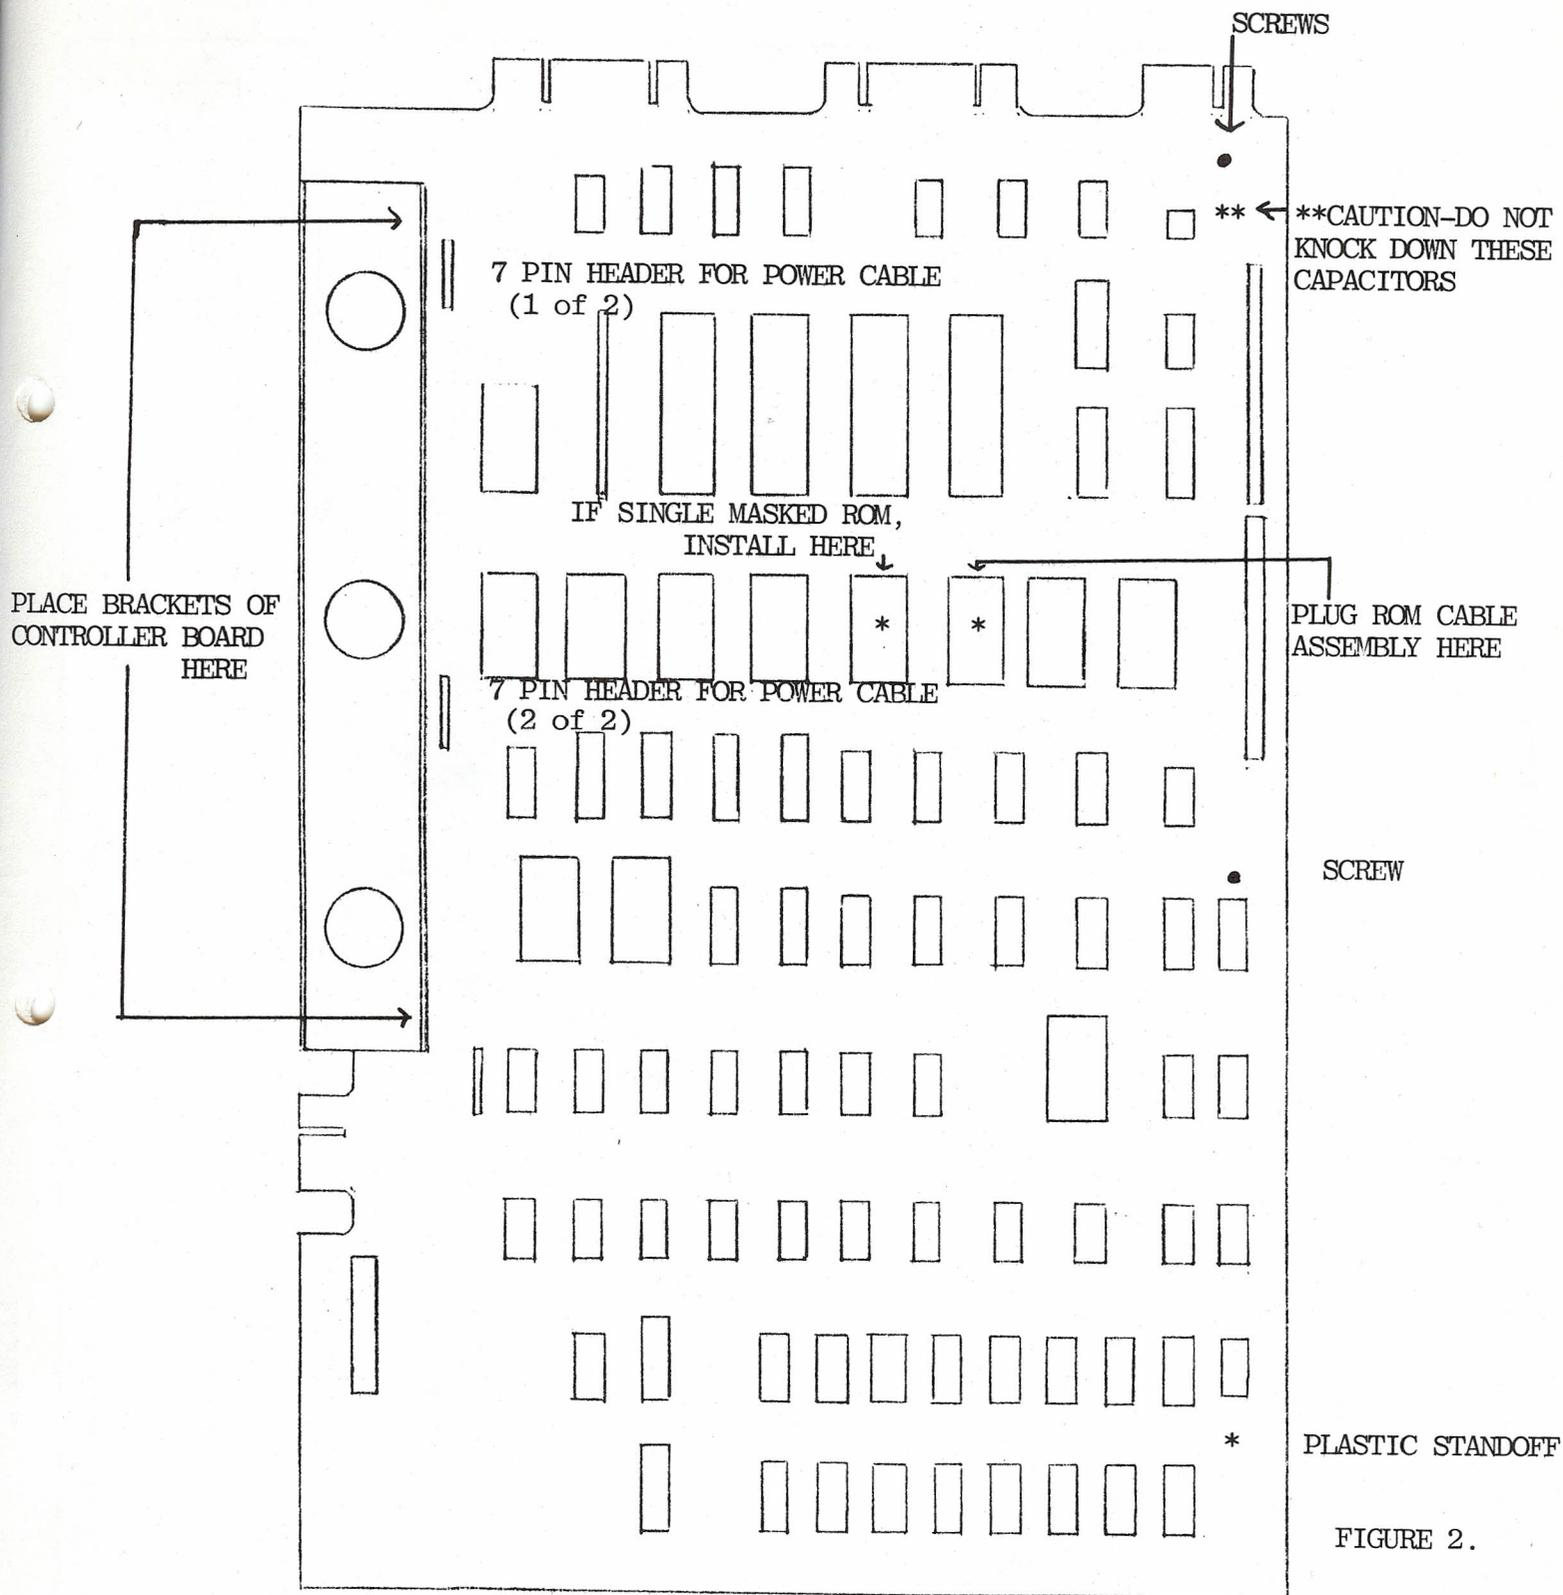

FIGURE 2.
3. If you received an EPROM 1180 card, plug it into the connector on the top of the controller board. Install the EPROM card with the components facing the components (see figure 3). If you received a single masked ROM (Part no. 1000188-000), plug it into the most left-hand empty socket on the PET CPU board with pin 1 facing the front of the PET (see figure 2).
4. Next, plug the ROM cable assembly (Part no. 1000182-000) into the third socket from the right on the PET CPU board with the flat cable toward the back right of the PET (see figure 2).
5. Squeeze together the 1 plastic standoff at lower right and pop-off the CPU board (see figure 2). Place the controller board over the CPU with the brackets facing the left of the CPU and insert the ROM cable thru the rectangular hole in the controller board. Be careful not to knock down the 2 capacitors at the right rear of the PET CPU. Pick the PET CPU board up about 2 inches on the right-hand side and install the controller board on the 50 header pins on the inside row. The pins must be straight. Make sure the sockets are all the way down on the pins, but be careful.
6. Install the power cable (Part no. 1000180-000) onto the single row 10 pin header on the controller board (J1 on figure 3). Install the other 2 ends of the cable onto the two empty 7 pin headers on the CPU (see figure 2). Note the keying of the connectors so that they are installed correctly on the headers.